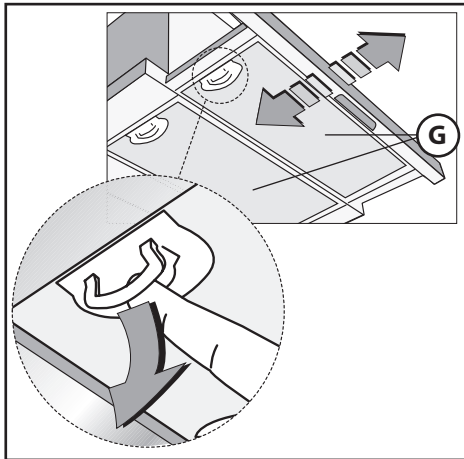
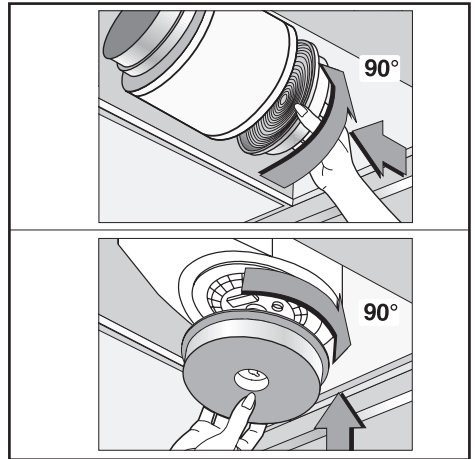

Fig.4
Fig.5
• If the hob is electric, gas, or induction, the minimum distance between the same and the lower part of the hood must be at least **65 cm**. If a connection tube composed of two parts is used, the upper part must be placed outside the lower part. Do not connect the cooker hood exhaust to the same conductor used to circulate hot air or for evacuating fumes from other appliances generated by other than an electrical source. Before proceeding with the assembly operations, remove the anti-grease filter(s) (Fig.4) so that the unit is easier to handle.
To transform the cooker hood from the extraction version to the re circulating one ask your supplier for an activated carbon filter. The filter must be fitted to the extracting group cooker hood in the centre of the fan grille by twisting it by 90 degrees until it is gripped securely (Fig.5). For this operation remove the anti-grease filter(s) **G** (Fig.4). The clean air is returned into the room through a connecting tube passing inside the cupboard and connected to the ring **H** (Fig.3B).